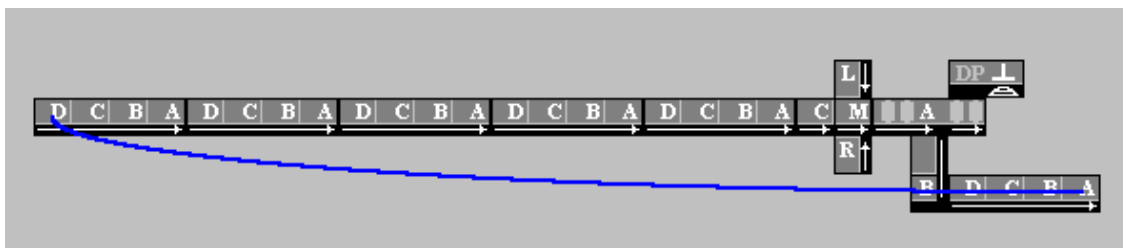

Fig. 4.42
- Drag the cursor to zone **D** of the first module (i.e. the target) and click on this zone D – the blue connecting line appears, showing connection between zone A of the last module and zone D of the first module – Fig. 4.42.